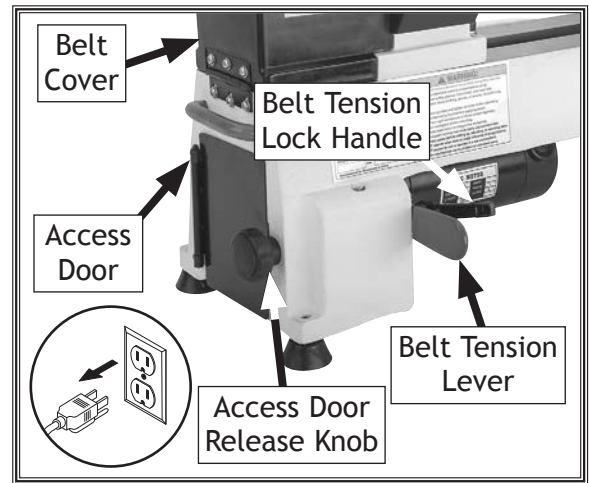

Figure 40. Location of access door release knob.
2. Open belt cover and access door (see **Figure 40**).